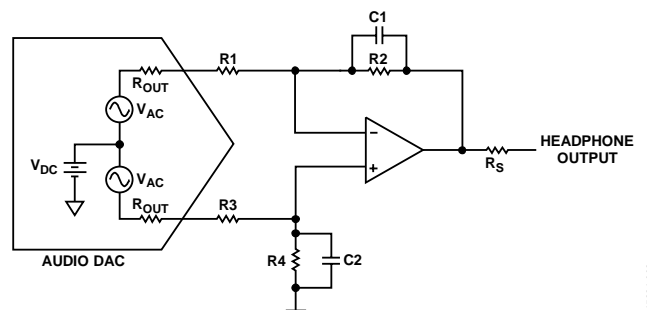

Figure 1. Diagram of Typical One-Stage Simple Amplifier Structure
The simple and low cost typical circuit is shown in Figure 1.
In Figure 1, V_{AC} is the audio signal and V_{DC} is the internal bias from the audio DAC.
- E_N and I_N are the voltage and current noise spectral density of the one-stage amplifier shown in Figure 1.
$R2$ is the feedback resistor, shown in Figure 1.
$R1$ is the series input resistor, shown in Figure 1.
As a result, users can choose and judge related parameters, as shown in Figure 1 and Figure 3.